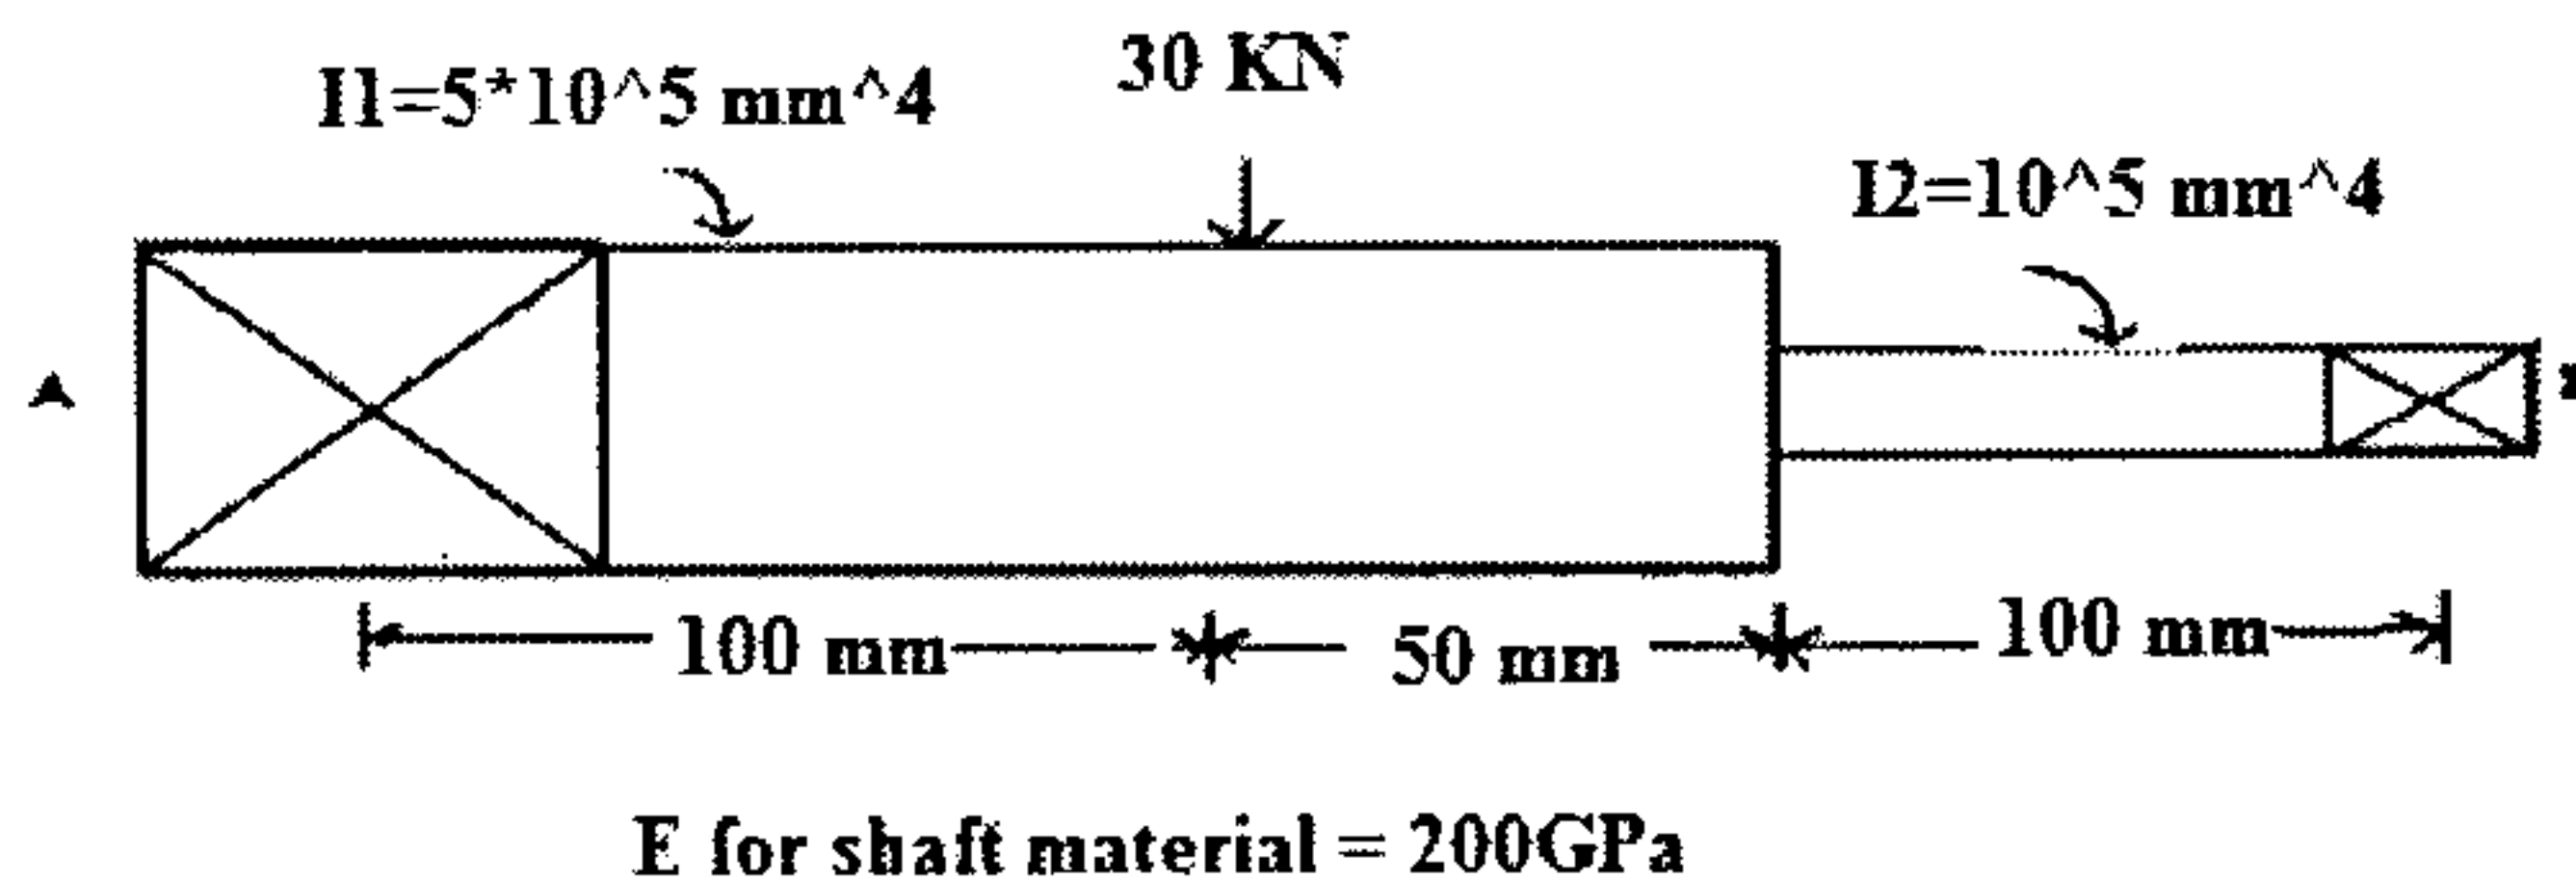

Fig. 3.
4. Find the deflection at the load and slopes at the ends for the steel shaft shown in fig.3 below. Consider the shaft to be simply supported at bearings A and B. 14 M